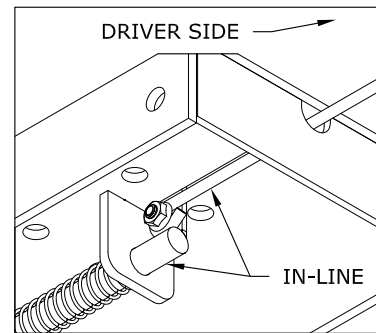

Figure F1: Center Section
1. Install the latch pin release handle by inserting it through the slot in the end of the center section on the driver side of the truck. Align the handle eyelet with the square hole in the latch pin so the handle is in line with the latch as shown in Figure F1.